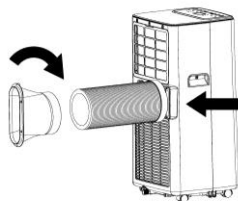

Fig. 6
1. Install the air exhaust hose in the housing at the back of the unit (Fig. 6)
2. Install the air conditioner near a window and put the exhaust hose outside through the window (Fig. 6,7,8,9,10).